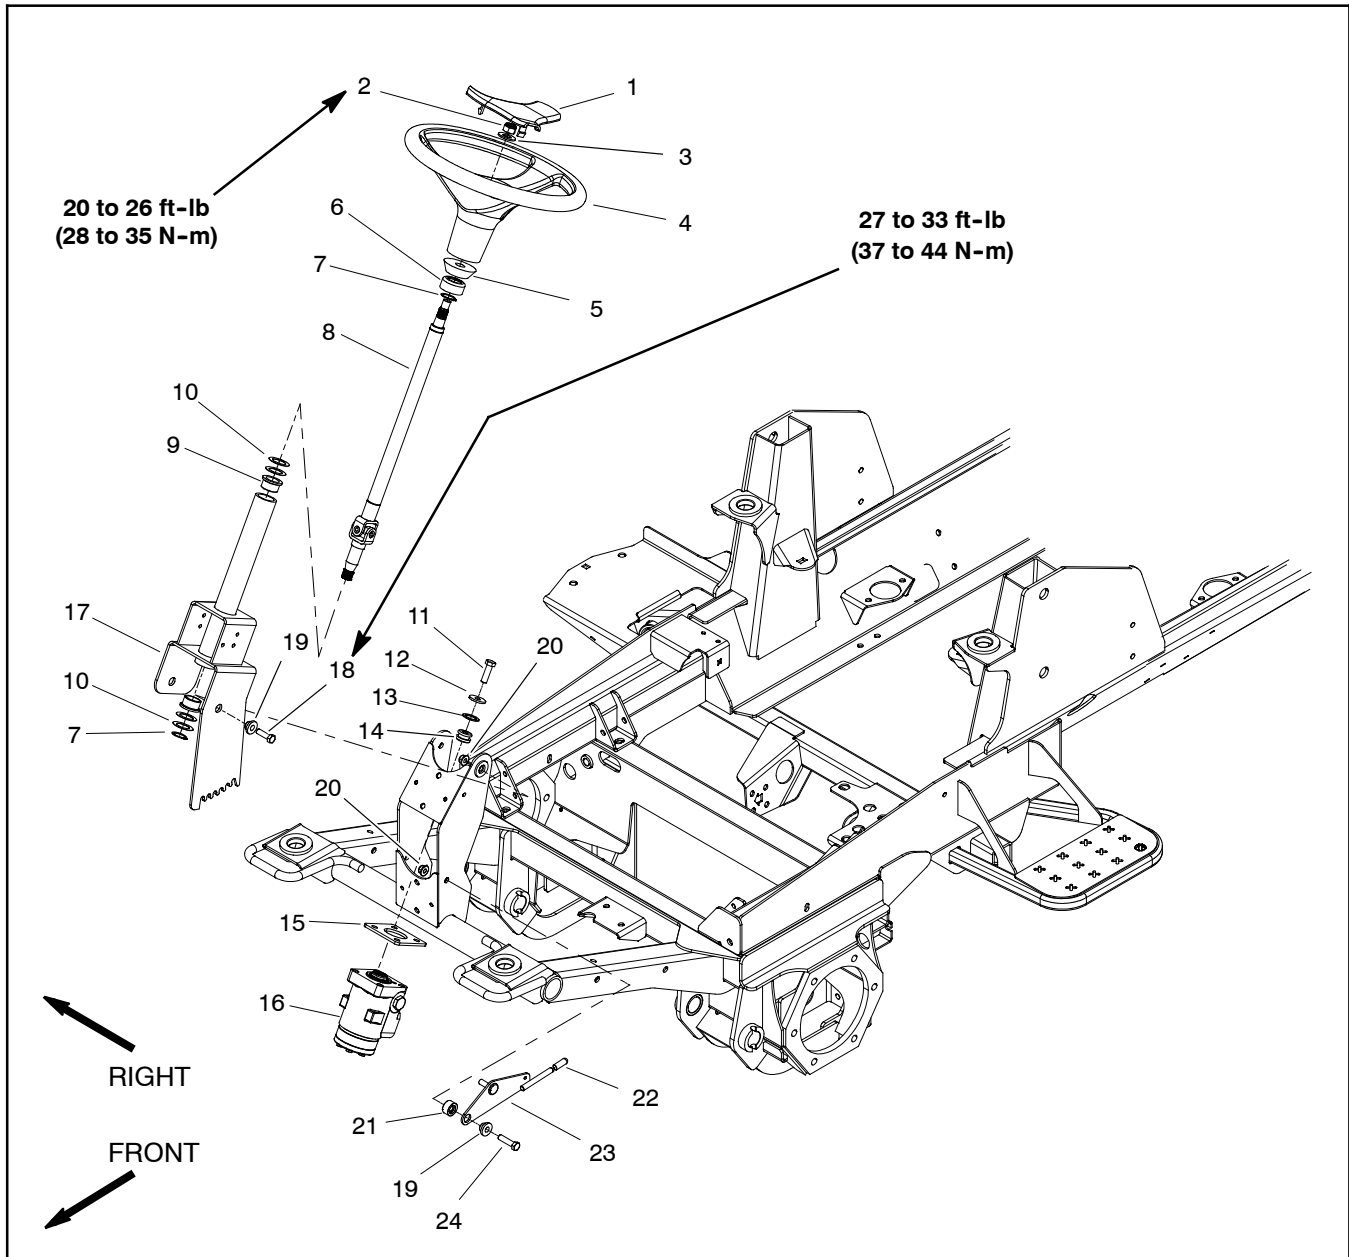

Figure 1
Disassembly (Fig. 1)
3. Disassemble steering tower as needed using Figure 1 as a guide.
Assembly (Fig. 1)
1. Assemble steering tower using Figures 1 and 2 as guides.
- A. If steering column (item 17) was removed, torque cap screws (item 18) that secure steering column to frame bracket from **27 to 33 ft-lb (37 to 44 N-m)**.
- B. Thrust washer(s) (item 10 in Fig. 1) on steering column are used as needed to remove end play of steering shaft.